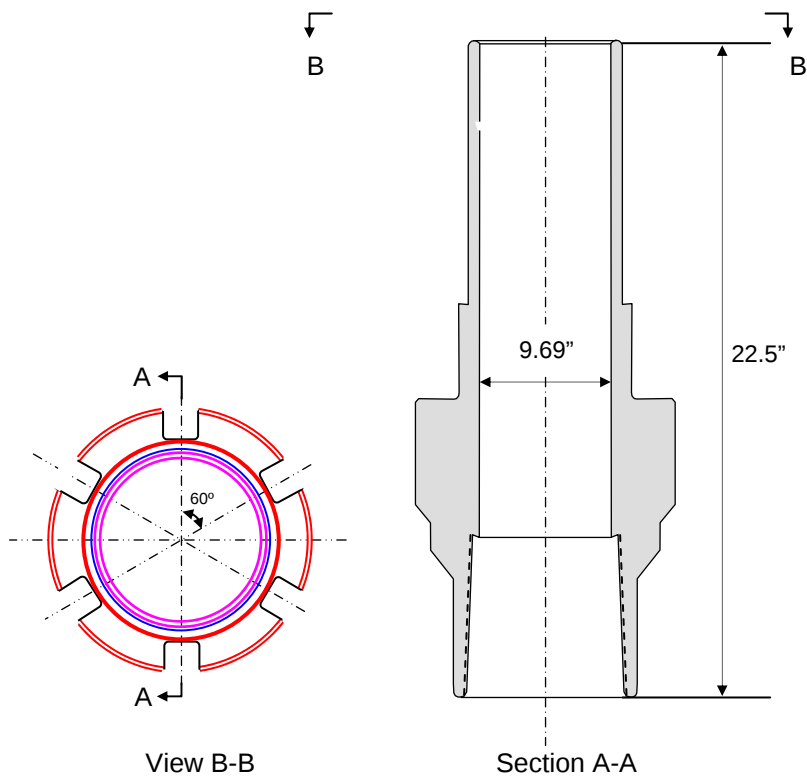

Figure 2-35: 9 5/8" Fluted Hanger Mandrel
- Space out for installing the fluted mandrel hanger, Figure 2-35.